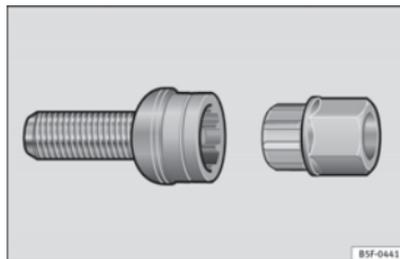

Fig. 177 Anti-theft wheel bolt
- Insert the adapter onto the wheel bolt and push it on as far as it will go ⇒ Fig. 177.